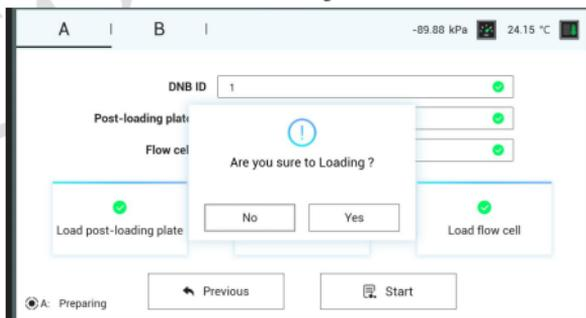

Figure 5-6: MGIDL-T7 loading Confirmation Dialog Box
- Click the “Start” button and select “Yes” as shown in Figure 5-6: